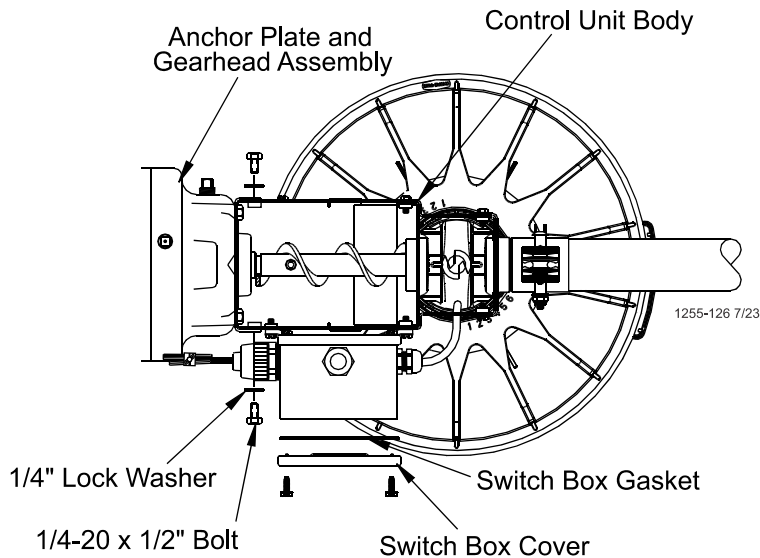

Figure 32. Attaching the Anchor Plate and Gearhead Assembly to the Control Unit Body
7. Attach the Anchor Plate and Gearhead Assembly to the Control Unit Body using the included 1/4" Lock Washers and 1/4-20 x 1/2" Bolts. See **Figure 32**.